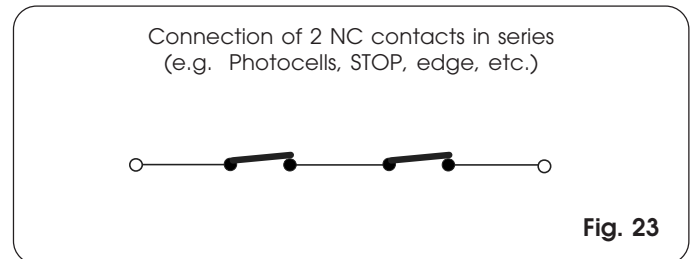

Fig. 23
**N.B.:** If two devices with NC contact have the same function, they must be connected to each other in series (Fig. 23).